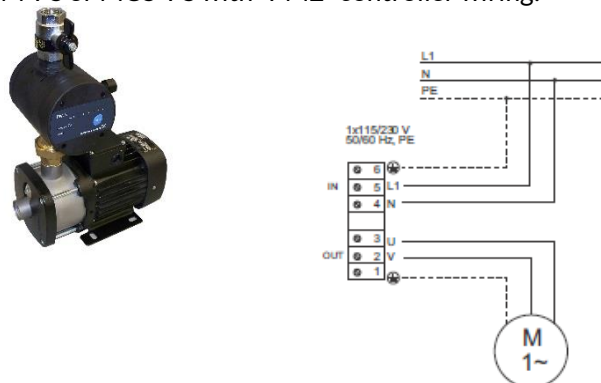

Fig. 1.5 Typical example of PM2 controller electrical connections
- 1.3.6.4 Where optional remote fault signal is required connect volt free terminal in inverter motor to remote panel. (see Fig. 1.5).